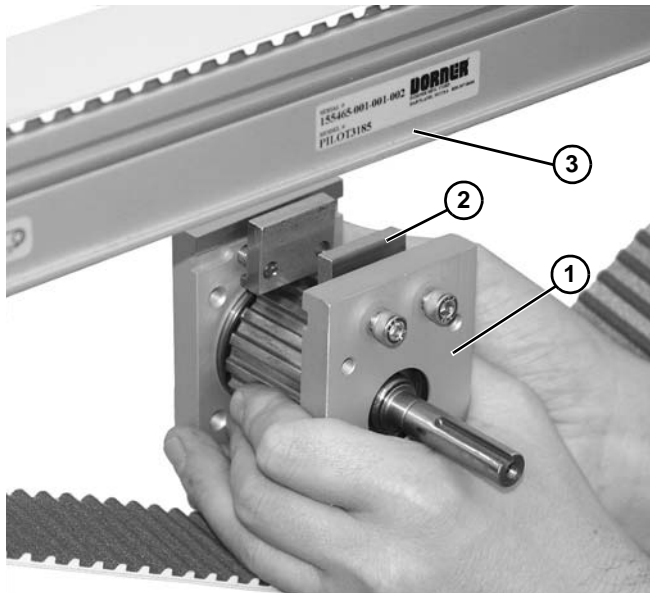

Figure 88
7. Raise center spindle assembly (Figure 88, item 1) tracking clamp block (Figure 88, item 2) onto conveyor channel (Figure 88, item 3) on each side of conveyor frame.